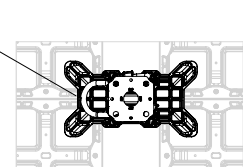

Fig. D1.03b
- above 4 DP panels (**10**), for connecting corners. (Fig. D1.03b)